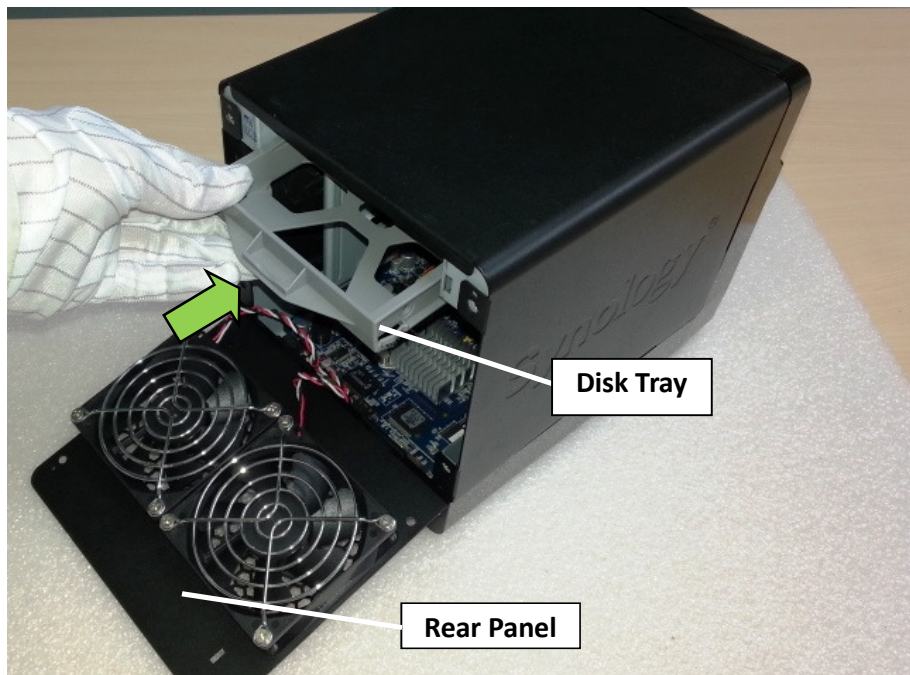

Fig. 84
3.2.12 Restore all the disk trays into the HDD chassis. (Fig. 84)